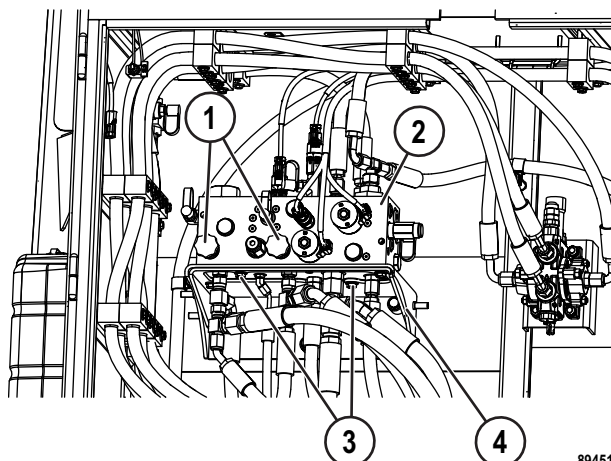

FIGURE 50-13. BRAKE MANIFOLD REMOVAL & INSTALLATION
2. Close all accumulator bleed valves (1, Figure 50-13) by rotating them clockwise.
3. Disconnect and tag all hydraulic lines from brake manifold (2). Plug all hydraulic lines and ports to prevent possible contamination.
5. Remove 4 capscrews and washers (3) from mounting bracket (4). Move the brake manifold to a clean work area for disassembly.
1. Place brake manifold (2, Figure 50-13) into position on mounting bracket (4).
2. Install 4 capscrews and washers (3, Figure 50-13). Tighten capscrews to the standard torque.
4. Open accumulator bleed valves (1).